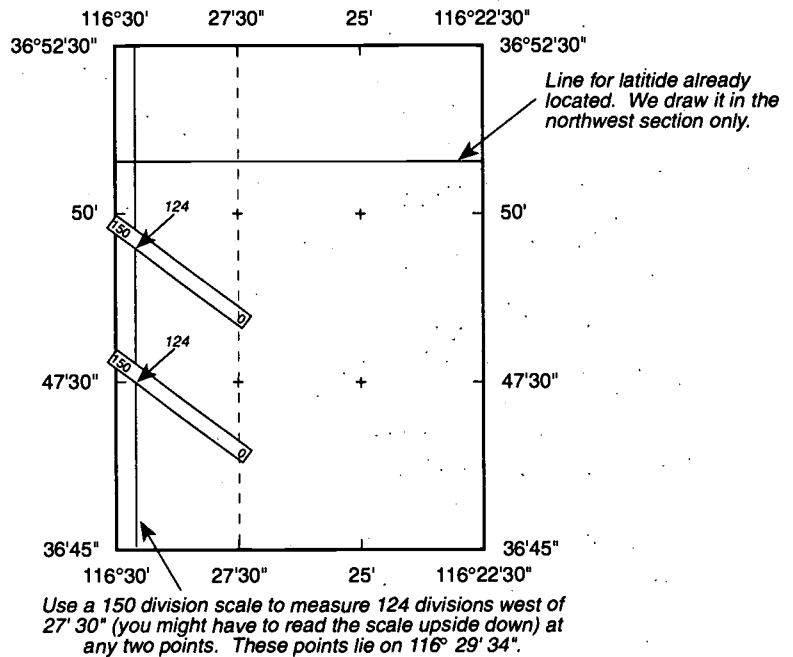

Figure 6
8. Using the ruler, locate any two points 124" (124 divisions) west of Long W27' 30". This time you will need to hold the ruler diagonally as illustrated in Figure 6. It is important that you align either the 0 or 150 mark on the ruler with the 27' 30" line. You must align the other division mark (0 or 150) on the western boundary of the map. Count 124" west of 27' 30" and mark a point on the map. Although both ends of the ruler need to be aligned properly, they do not necessarily need to fall within the boundaries you have drawn for this section. Move the ruler, align it again, and make a second mark.